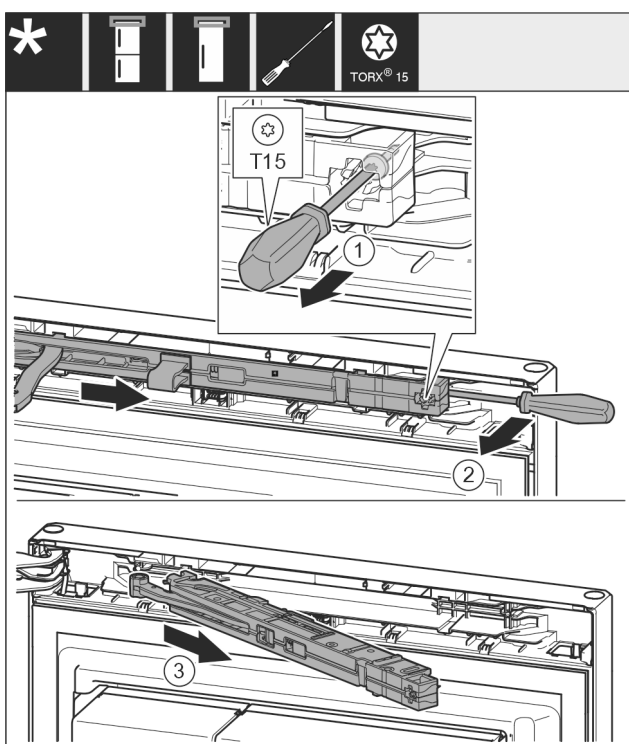

Fig. 15
- Use screwdriver to loosen the screw Fig. 15 (1) on the closing damper unit by 14 mm.
- Lever the closing damper unit Fig. 15 (2) forwards on the handle side using a screwdriver.
- Pull out the closing damper unit Fig. 15 (3).